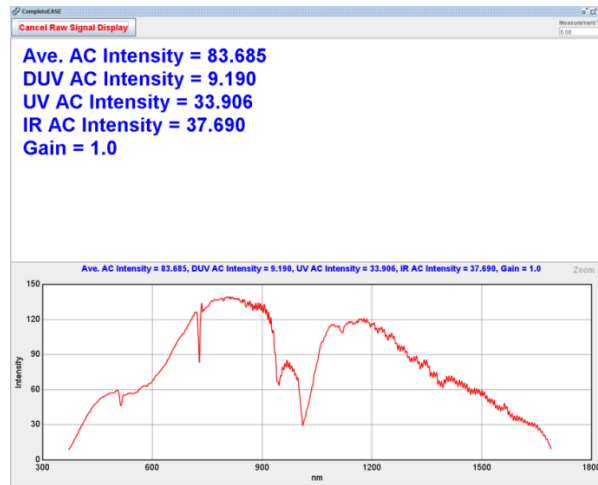
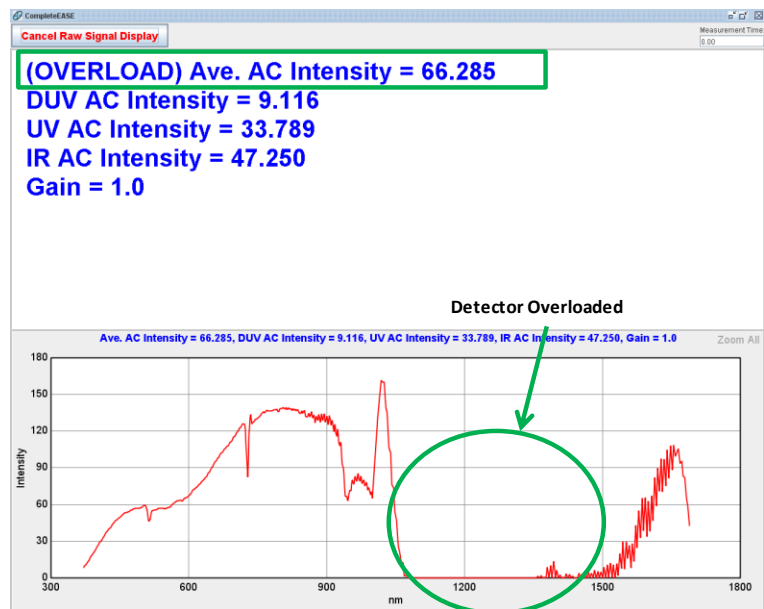

Figure 4-21. Raw Signal Display screen.
Figure 4-22. Optional NIR spectrometer overloaded on M-2000 system.
2. This will display a plot of the magnitude of the signal from all detector channels, as shown in Figure 4-21. The intensities below are typical for an M-2000 in the straight-through configuration.
4. If part of the UV-VIS signal, optional NIR, or both is “Overloading” as shown in Figure 4-22, the iris(es) or filter position on the Receiver unit may need to be closed down until the signal is no longer “Overloaded” as shown in Figure 4-21. If the system is equipped with the Source ND filter wheel, this can also be adjusted to avoid the overload (see Neutral Density Filter Wheel section, page 16).